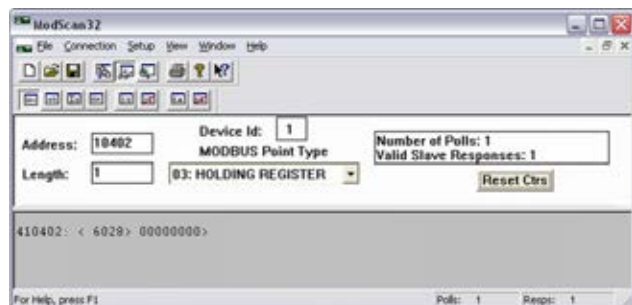

Fig. 221: Modscan32 at address 410402
- ➔ Set the configuration to address parameter 10401 as shown in (Fig. 221).